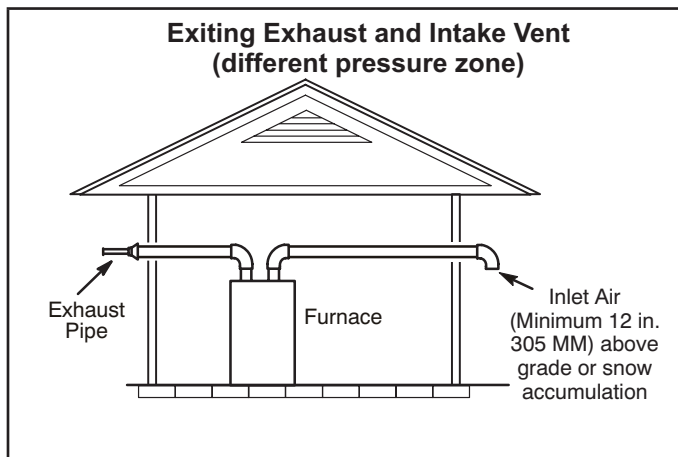
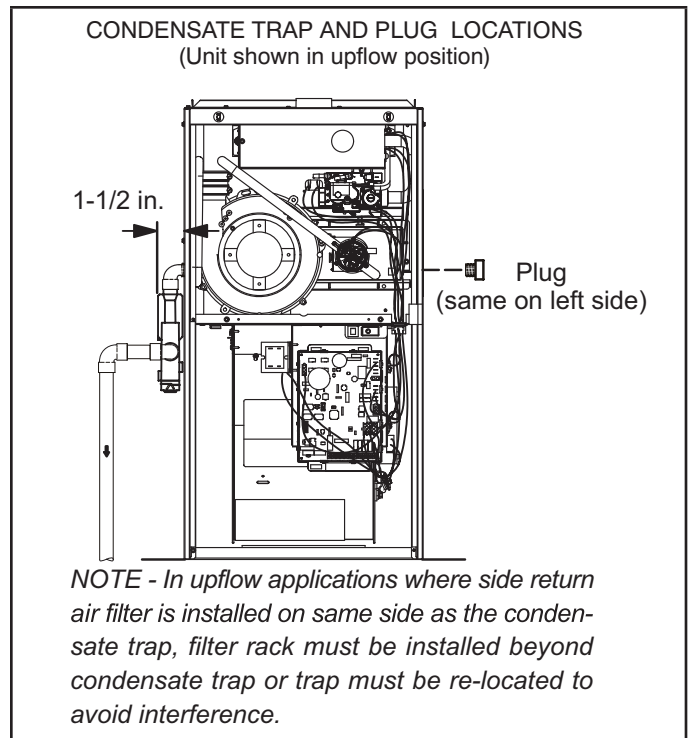
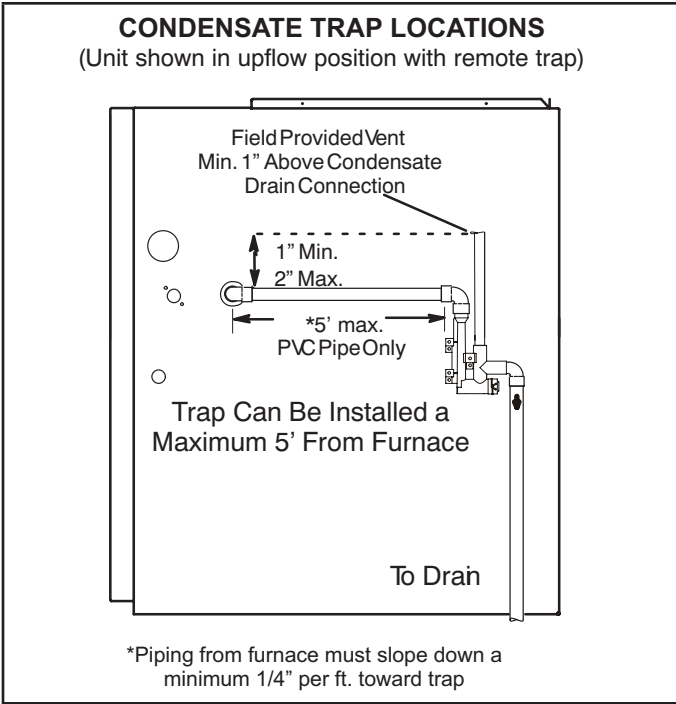
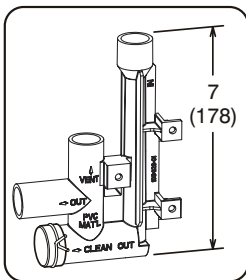

FIGURE 31
FIGURE 39
FIGURE 41
FIGURE 47
Intake and exhaust pipes may be routed either horizontally through an outside wall or vertically through the roof. In attic or closet installations, vertical termination through the roof is preferred. FIGURE 31 through FIGURE 39 show typical terminations.
This unit is designed for either right- or left-side exit of condensate piping in upflow applications. In horizontal applications, the condensate trap must extend below the unit. An 8" service clearance is required for the condensate trap. Refer to FIGURE 39 and FIGURE 41 for condensate trap locations. FIGURE 47 shows trap assembly.
- 3 - Install the cap over the clean out opening at the base of the trap. Secure with clamp. See FIGURE 47.
- 4 - Install drain trap using appropriate PVC fittings, glue all joints. Glue the provided drain trap as shown in FIGURE 47. Route the condensate line to an open drain. Condensate line must maintain a 1/4" downward slope from the furnace to the drain.